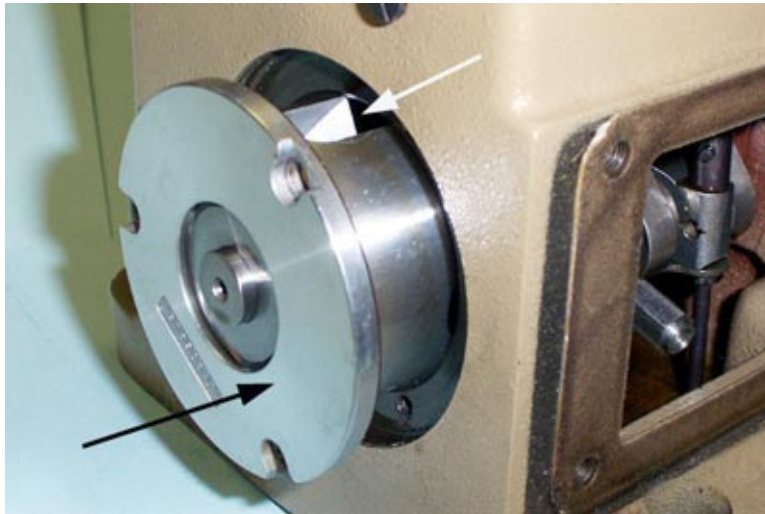

Fig 7
3) Install the bearing housing with its gasket, 1 set of thrust washers, bearings and brass pilot rings on each side, onto the crankshaft and tighten with its 3 screws. (fig 7). Note: make sure that the large oil hole in the housing is facing up.